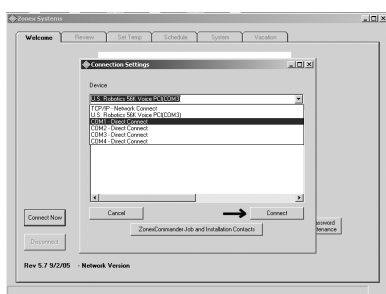
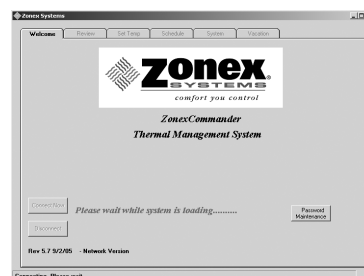

Fig. 7
Fig. 8
- Verify that the **Connection Settings** window appears (see Fig. 7).
- Click on the **Connect** button (see arrow in Fig. 7). The screen then displays: **Please wait while system is loading** (see Fig. 8). The connection should complete within 30 seconds and is verified when the **Connection Successful** window appears.